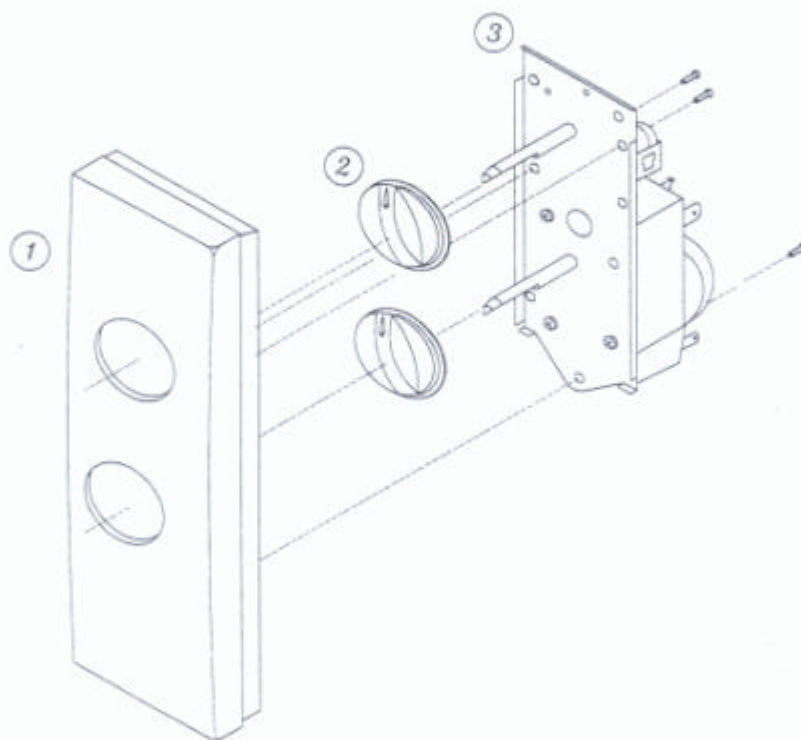

Fig. 14.2 CONTROL PANEL ASSEMBLY
(2) CONTROL PANEL ASSEMBLY (Fig. 14.2)